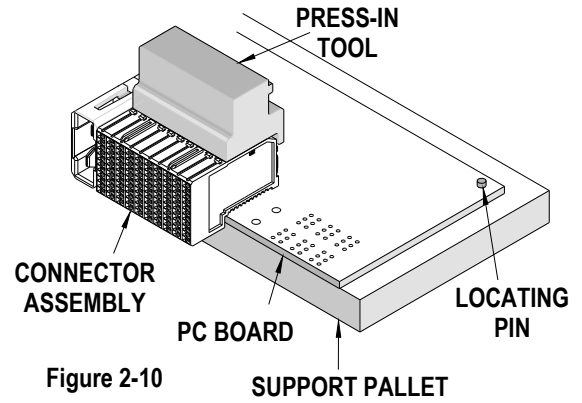

Figure 2-10
4. Position the insertion tooling on the connector assembly. See Figure 2-10. Position the printed circuit board under the press platen (Optional).